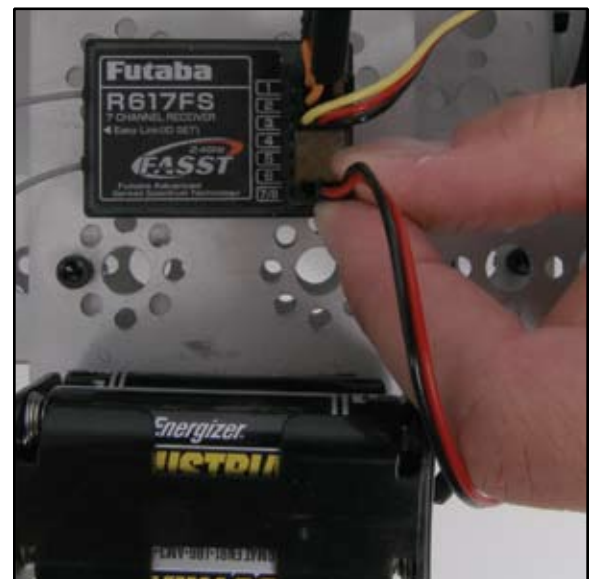

Figure F9
13) Turn on the R/C hand set, and plug in the wire from the receiver battery pack into the receiver (Figure F9) – an LED light should come on. Turn the on/off switch to the On position. Now, you can use the right steering control to move the robot forward, backward, and side-to-side. The left steering control will open and shut the grippers.